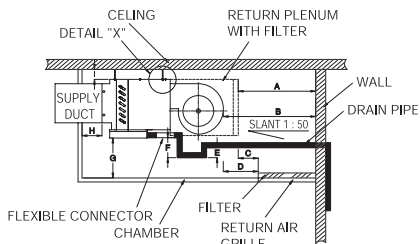
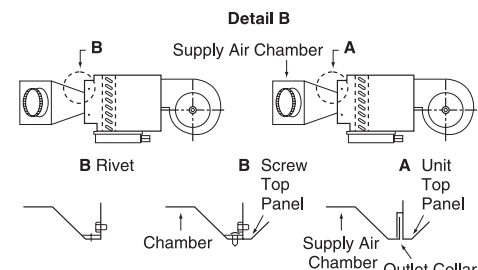

Figure 3 (SIDE VIEW)
Figure 6
3. Hang the unit on a solid and level roof. Noise, vibration or leakage could occur on and unstable foundation (Figure 3, 4). For correct installation of duct work see (Figure 6).